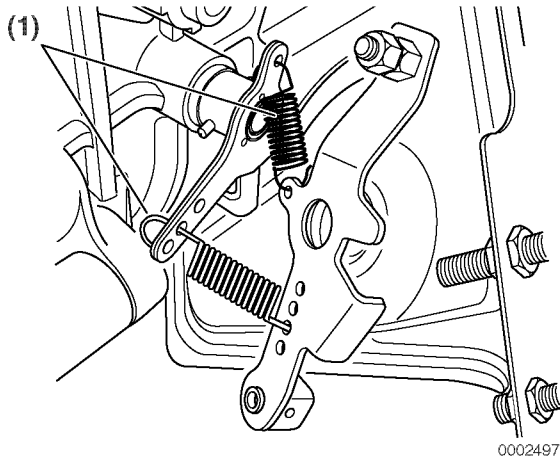

Figure 6-83
2. Pull the assembly away from the crankcase (**Figure 6-83, (1)**) and mark the position of each spring end for reassembly. Carefully remove each spring.